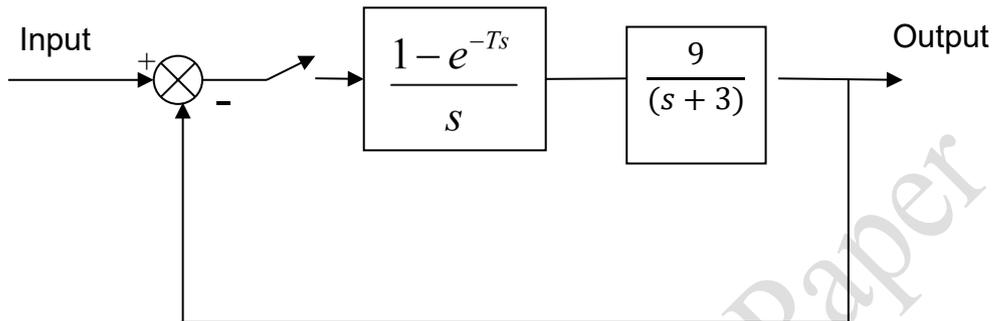

Figure Q6(b) An automation assembly control system
- (b) An assembly model is shown in Figure Q6(b), in which the computer performs the function of controller to control the assembly process.